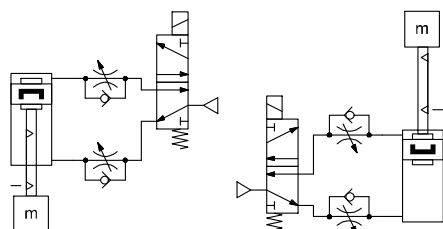

Fig. 2
- Use one-way flow control valves (exhaust air flow control) for regulating the speed of the cylinder (pneumatic control → Fig.2). Note the maximum permissible impact energy (→ www.festo.com/catalogue).